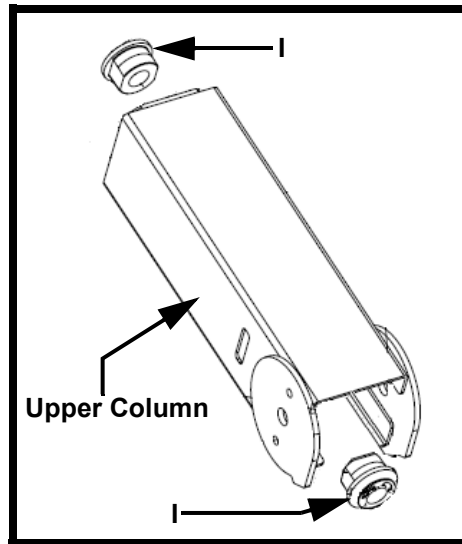

FIGURE 4
14. Install one (1) of the new **741-07090** Flange Bushings (I) into the upper column with the inner flange pointing upward. The flange bushing will have a slight press fit into the upper column. Use a soft face mallet to seat the flange bushing. Install the remaining **741-07090** Flange Bushing into the lower portion of the upper column using the soft face mallet. See Figure 4.